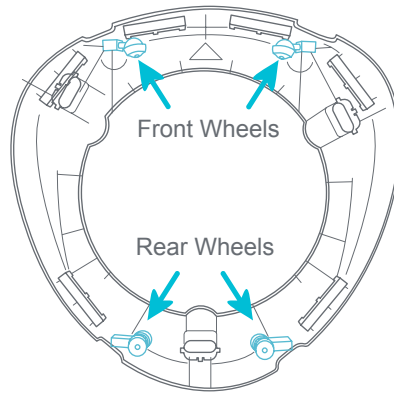

Fig. 7a
- 7 • Locate the two front wheels under the base shown on the diagram (Fig. 7a).